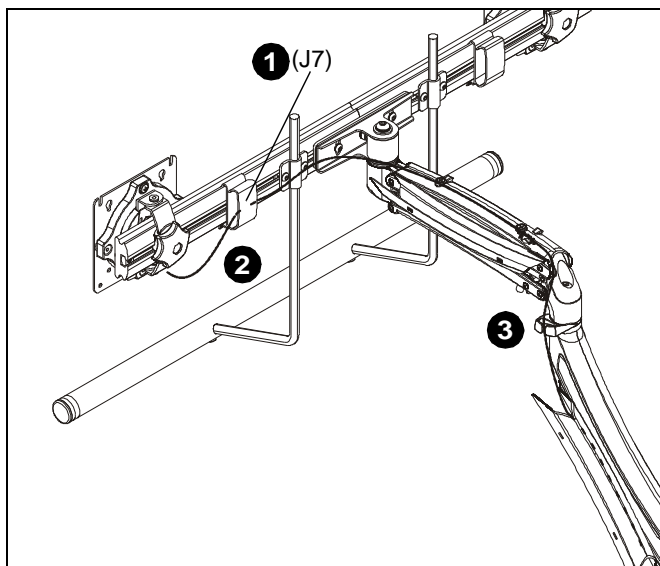

Figure 20
1. Install array cable clips (J7) to back of array. (See Figure 20)
2. Route cables through array cable clips (J7) as desired. (See Figure 20)
3. Route cables through arm cable clips as desired. (See Figure 20)